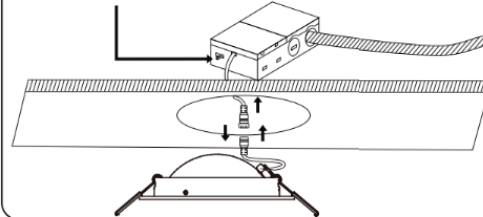

Fig3
- 3.** Insert J-Box through the mounting hole and secure it, connect the fixture power cable to the J-Box. Select lamp color desired with the CCT switch, see Fig3.